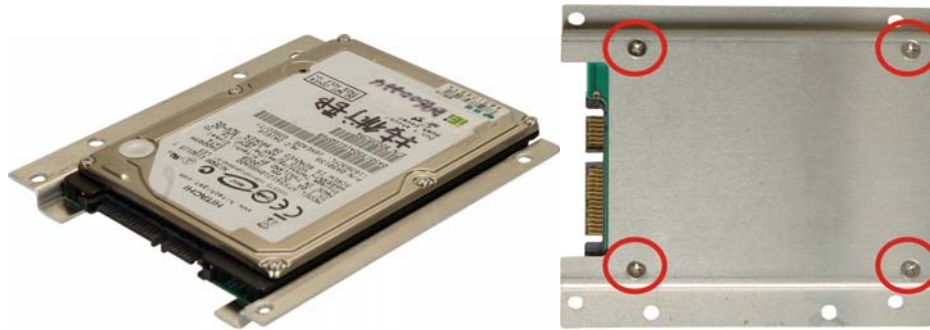

Figure 3-6: Hard Drive Retention Screws
Step 6: Attach the hard drive to the hard drive bracket. To do this, align the four retention screw holes on the hard drive with the screw holes on the hard drive bracket. Fasten four flat head retention screws to secure the hard drive to the bracket (Figure 3-6).